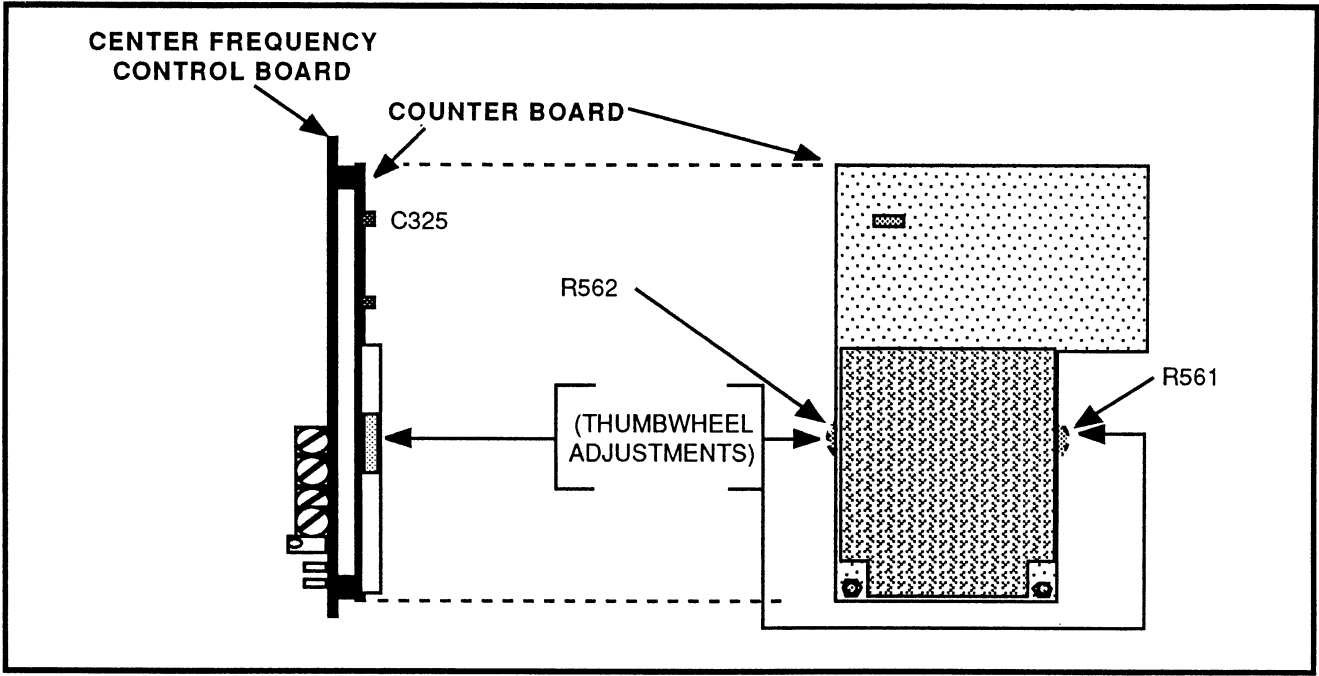

Figure 4-12. Counter Amplifier board adjustments.
Table 4-4. Removing a combination of these resistors raises the reference frequency by the equivalent amount (sum) according to Table 4-4. See figure 4-12 for the location of the 1 k Ω resistors.
- d. Adjust R562 (Figure 4-12) for 0.7 V_{pp} of the 100 MHz strobe signal.